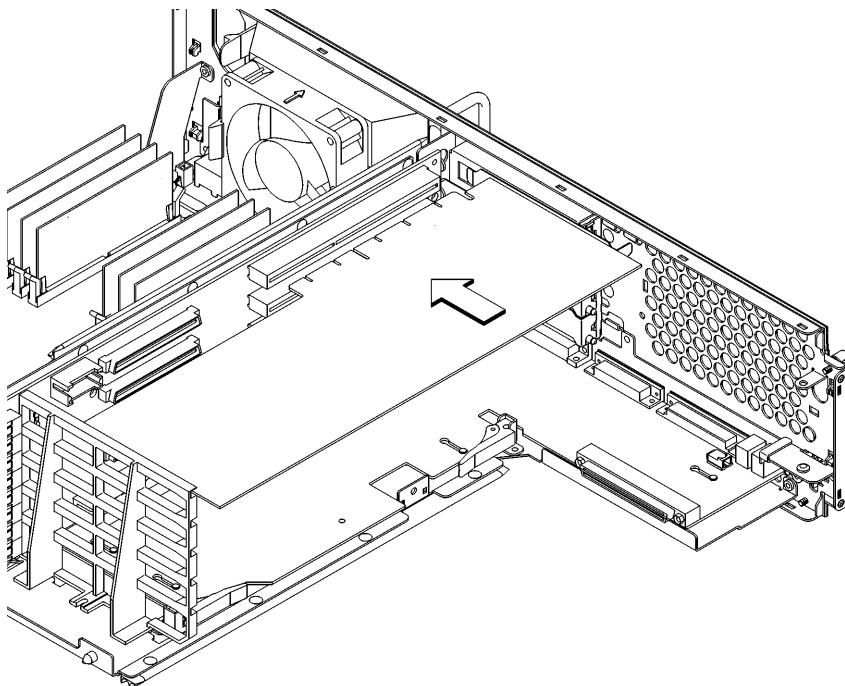

Figure 12
- 6 Slide the option board into the slot. Make sure that the hole in the board's handle aligns with the pin on the back panel, as shown in Figure 12.